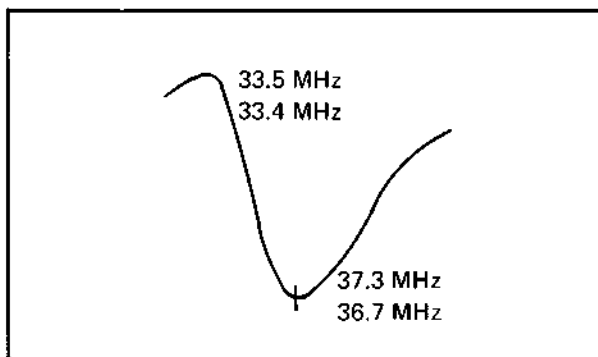

Fig. 6-47
7. Adjust the core of T106 to tune sound trap to the 33.5 MHz (HR-3330EK), 33.4 MHz (HR-3330EG) marker as shown in Fig. 6-47.